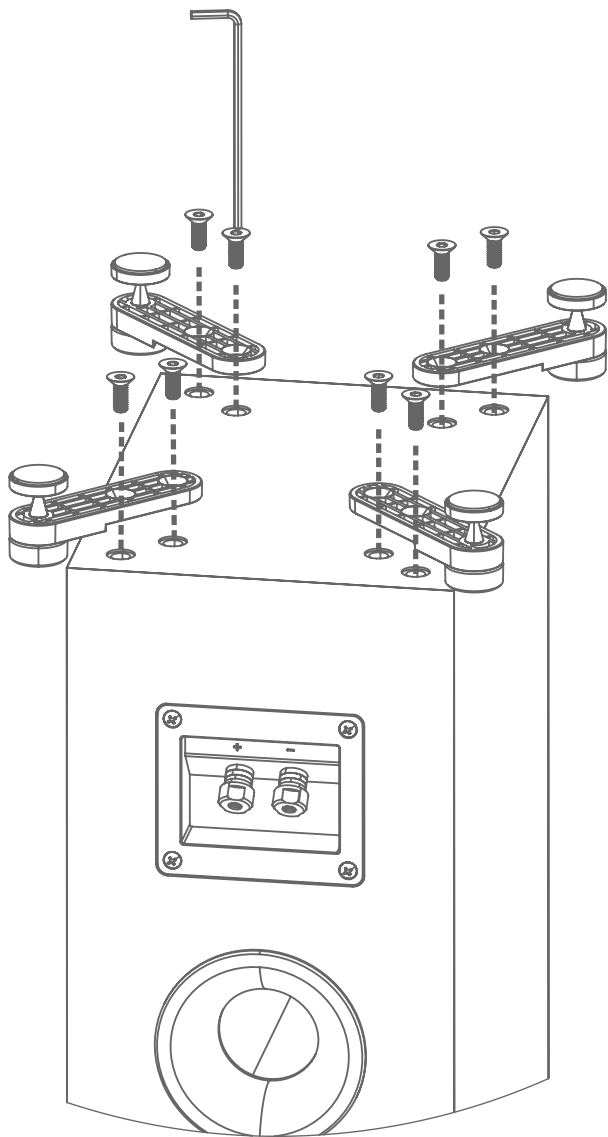

**Figure 2**
- For the best results and the most realistic stereo image and lifelike sound, place the speakers so that an equilateral triangle (fig. 2) is created between the speakers and your favorite listening position. This set up creates the optimum imaging performance.